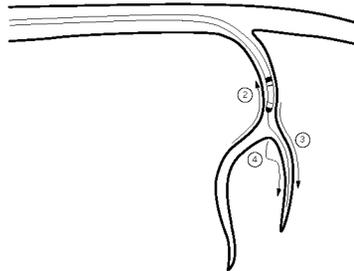

Figure 16. Using a stylet followed by a guide wire within a branch vein.
2. To access the side branch retract the lead proximal to the vein bifurcation and replace the stylet with a guide wire. Direct the guide wire into the side branch (Figure 16).
3. Advance enough wire ahead of the lead to anchor the wire in the side branch and to prevent the lead from reforming its J shape (Figure 16).
4. Track the lead over the wire into the side branch (Figure 16).